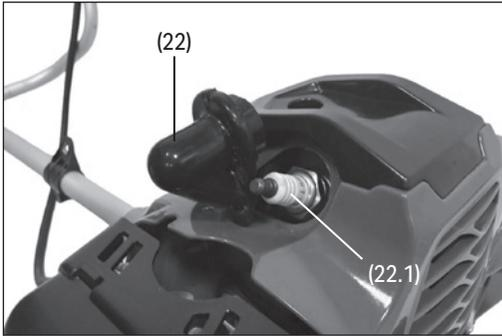
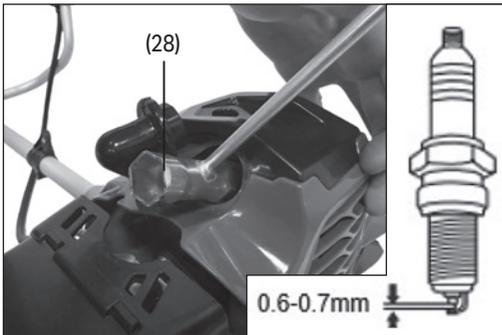

Fig.23
Fig.24
10.3 Spark Plug Maintenance (Fig.23 – Fig.24)